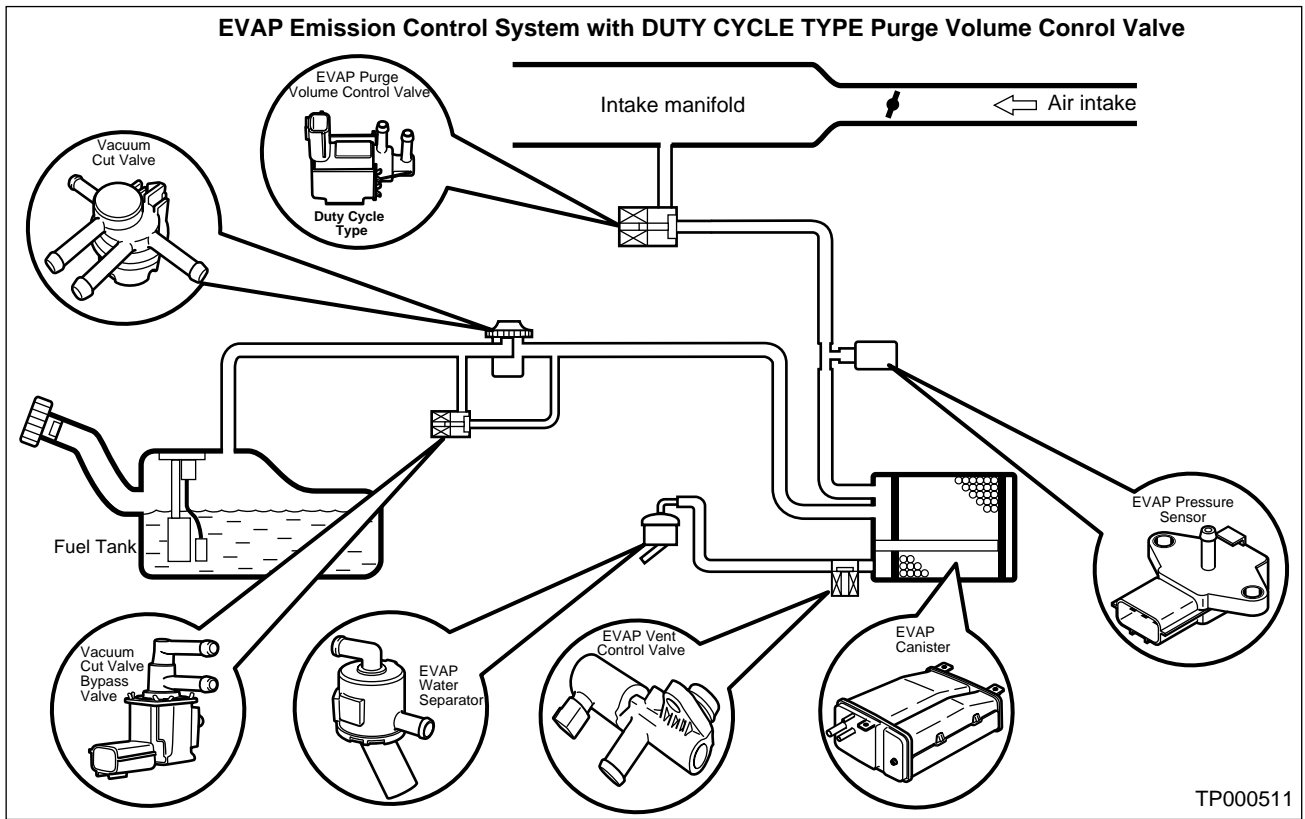

Figure 1
**NOTE:** There are two different types of EVAP Purge Volume Control Valves (i.e., the duty cycle type and the step motor type). Depending on the valve type, different hoses need to be disconnected (from the valve) to perform the cleaning procedure (discussed later in this bulletin). Refer to Figures 1 and 2 to determine the system variation you are working with.
3. Disconnect the hose from the EVAP Purge Volume Control Valve (or Purge Cut Valve, if equipped). Refer to Figures 1, 2, and 4 to determine which hose to disconnect based on the type of Purge Volume Control Valve on the vehicle (i.e., duty cycle or step motor type).
5. Inspect the following components (refer to Figures 1 and 2) for charcoal particles. If charcoal particles are found, carefully remove the particles from the component(s) and the hoses that connect to them.